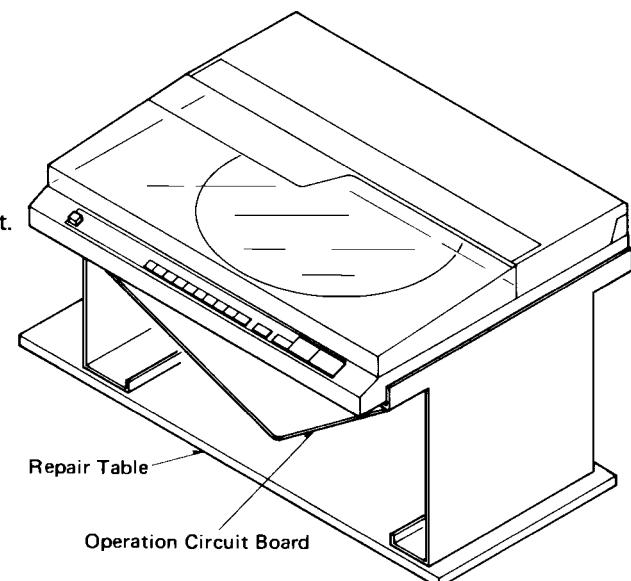

Fig. 34
1. How to use the repair table (Fig. 34)
- ① Remove the bottom board.
- ② Remove the operation circuit P.C.B. and connect the P.C.B. ground terminal to the chassis (Stator frame).
- ③ Put the unit on the repair table.
- ④ Fit the turntable platter and put on the turntable mat.
- ⑤ Put on the record and check the circuits from under the unit.